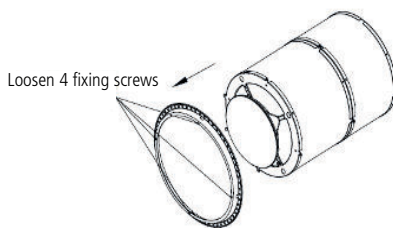

Fig.4
5. The LED light can now be removed by loosening the 4 fixing screws, and replacing with a new LED light (Fig.4)